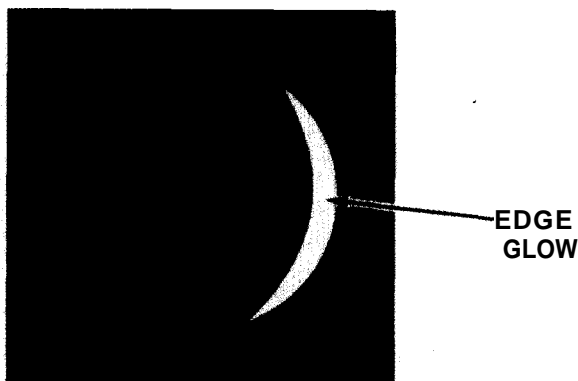

Figure 2-7. Edge Glow.
b. Edge Glow. Edge glow is a bright area (sometimes sparkling) in the outer portion of the viewing area (see Figure 2-7). To check for edge glow the operator can block out all light by cupping a hand over the objective lens. If the image intensifier is displaying edge glow, the bright area will still show up. *Do not* use if edge glow is present. Send goggle to higher level of maintenance.